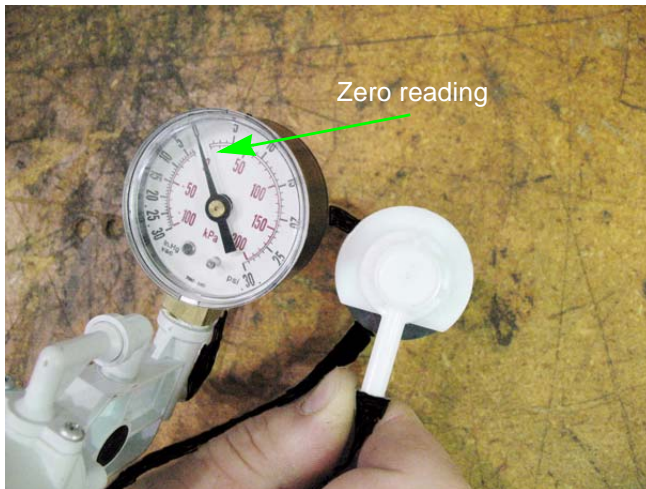

Figure 2.16
5. With the vacuum still applied, turn the roll over valve over. See Figure 2.16.